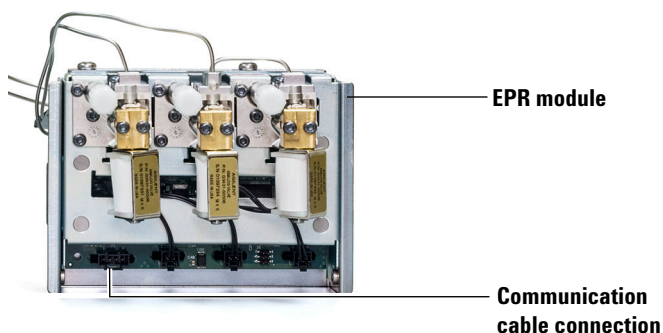

Figure 10 Communication cable connection on EPR module
- 2 Locate the communications cable in the detector module EPR bays area, and plug it into the connector located on the lower left side of the EPR module circuit board. (See Figure 10.)